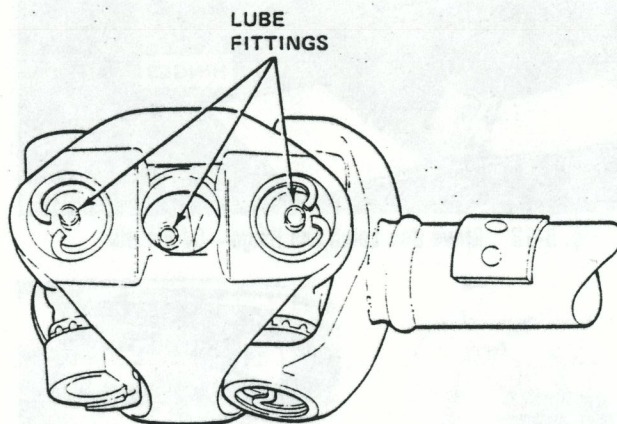

Fig. B-20 Double Cardan Joint
- (1) Raise vehicle on frame-contact type hoist (front wheels must be free to rotate).
- (2) Clean dirt from around double cardan joint (fig. B-20).
- (3) Lubricate joint using needle-type Lubrication Adapter J-225512-2.